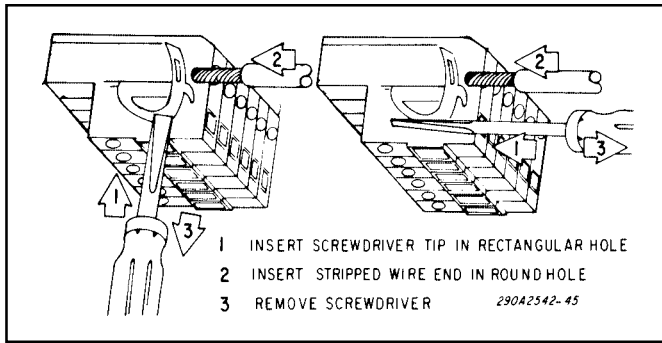

Figure 3.
To avoid damage and ensure proper operation, the red and black wires MUST be installed in the six-position connector as shown in figure 3.
a. Strip 1/4" of insulation off of each wire. See figure 3. Use small blade screwdriver to depress spring in connector, insert proper wire and remove screwdriver to release spring.
b. Connect the red and black 14-gauge wires to the connector as shown in figure 3.
d. Connect the 18-gauge red and green wires to the connector as shown in figure 3.